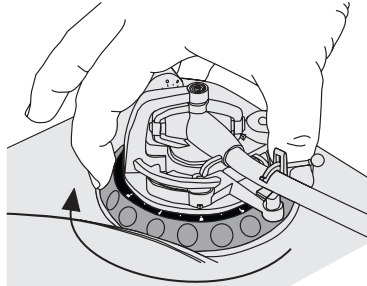

Fig. 8: Adjusting the height
- 2 By means of the adjustment ring lift the tone arm support within the range by up to 6 mm; the default setting is 0 mm (Fig. 8).